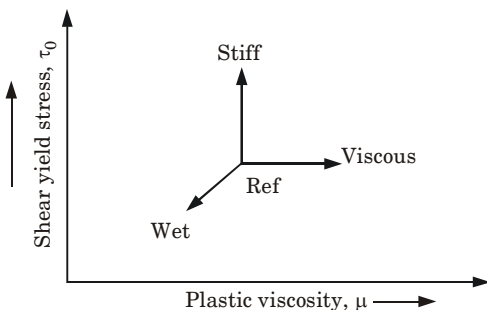

Fig. 3.12.1. Different types of concrete with respect to flow characteristics.
- i. Fig. 3.12.1 shows the three-dimensional relationship between different types of concrete and the rheological parameters.